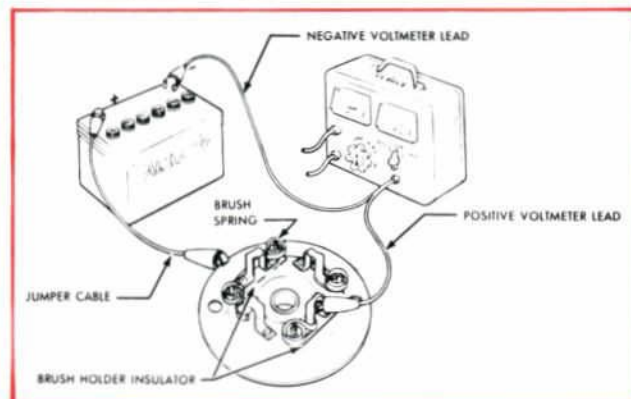

Figure 2—Brush Plate
1. Connect a jumper cable from the battery positive post to the brush end plate (figure 2).